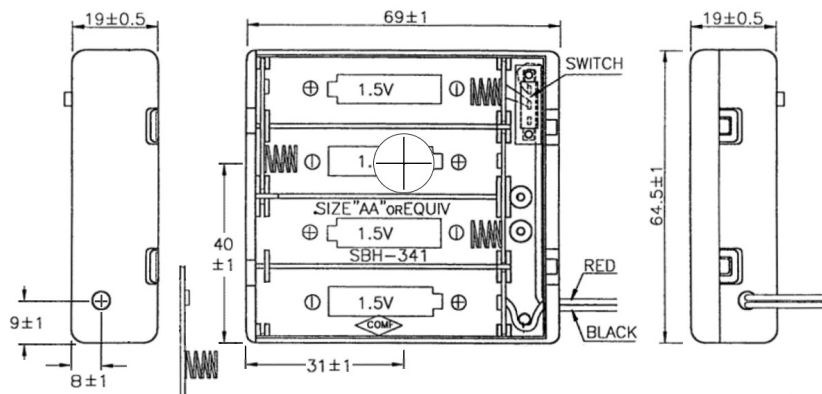
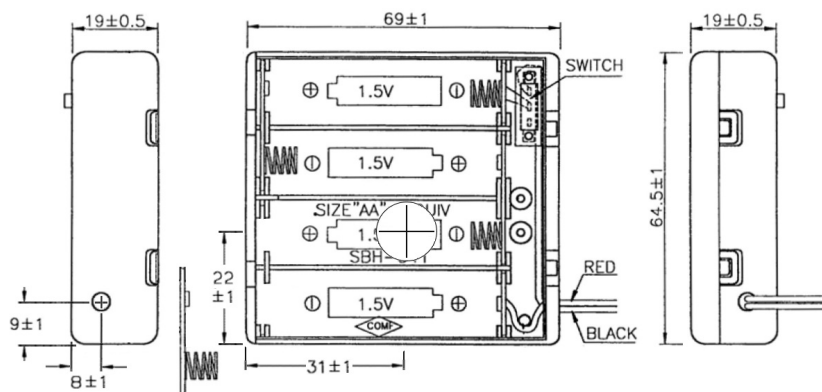

Fig 1L - Drilling drawing - LED in lower position
Fig 1U Drilling drawing - LED in upper position
- 5 - Drill a 9.5mm hole through the front of the box in the position shown in Fig 1L or Fig 1U
- 1 - Open battery box [Fig 1L]
- 1 - Open battery box [Fig 1U]